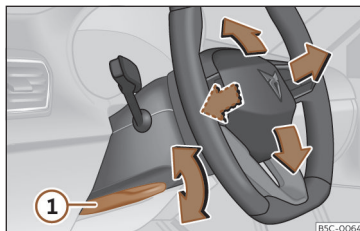

Fig. 4 Lever in the lower left side of the steering column.
- Pull the **>>> Fig. 4 ①** lever down, move the steering wheel to the desired position and lift the lever back up until it locks.
- After adjusting the steering column, push the lever **>>> Fig. 4 ①** firmly upwards to ensure the steering wheel does not accidentally change position while driving.